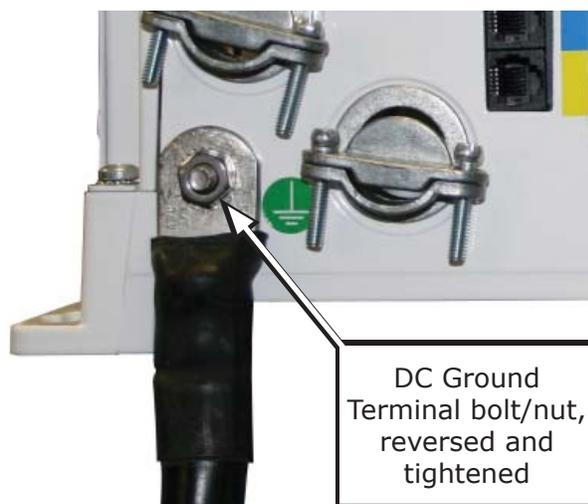

Figure 2-17, Large Ground Wire Connected to MS-E Series
4. Reverse the removed bolt, and place it back in the chassis hole to attach a correctly sized ground cable to the MS-E Series chassis, as shown in Figure 2-17.